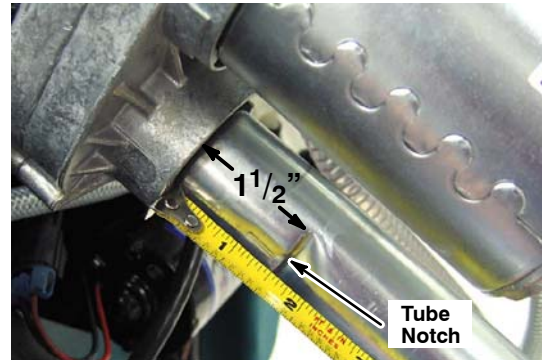

FIG. 7
- 4a. Turn the tube until the distance between the gearbox and the tube notch is $1\frac{1}{2}$ in / 38 mm (Fig. 7). Adjust tube accordingly.